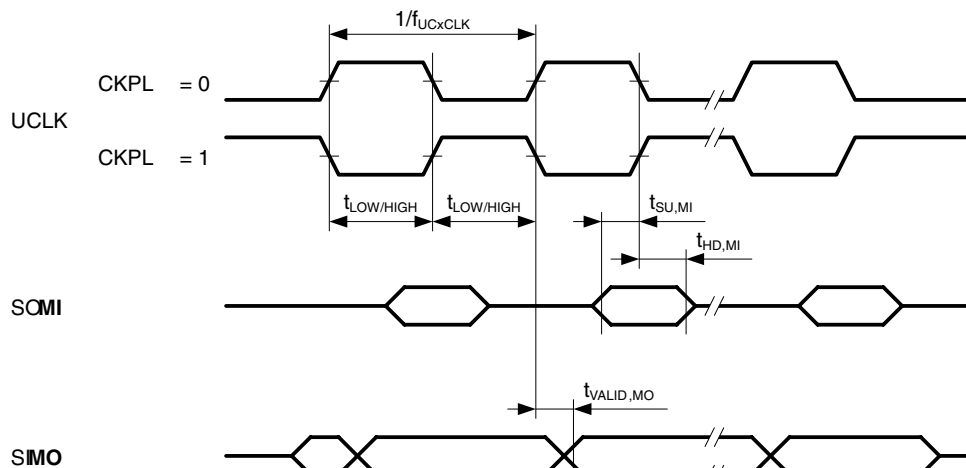
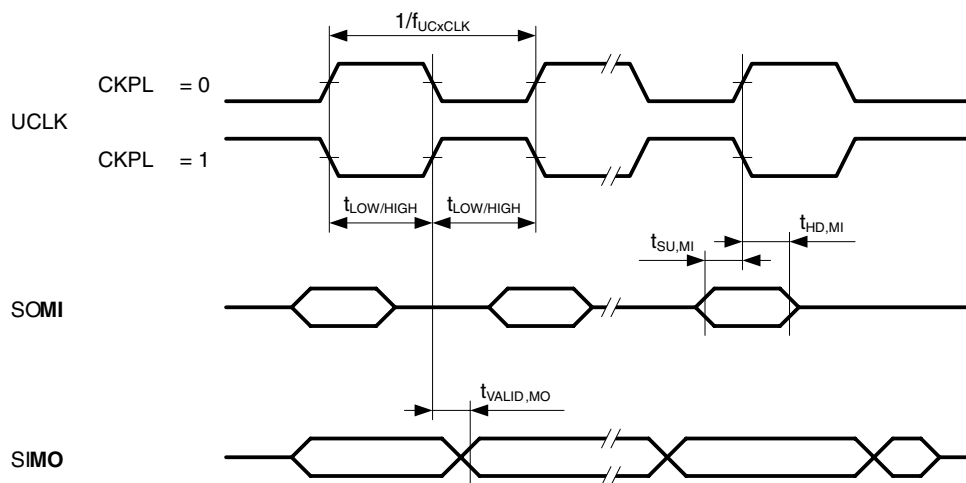

**Figure 18. SPI Master Mode, CKPH = 0**
**Figure 19. SPI Master Mode, CKPH = 1**
**USCI (SPI master mode) (see Figure 18 and Figure 19)**